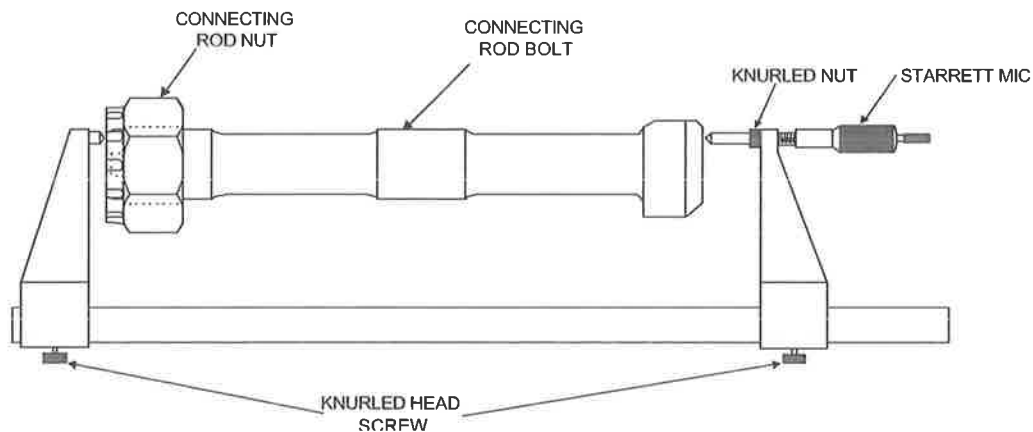

Figure 4-8. Stretch Micrometer
5. The micrometer reading of the bolt length should be taken before the nut is tightened (see Figure 4-8). This dimension should be recorded for future reference. (This should be done on both bolts prior to any tightening.)